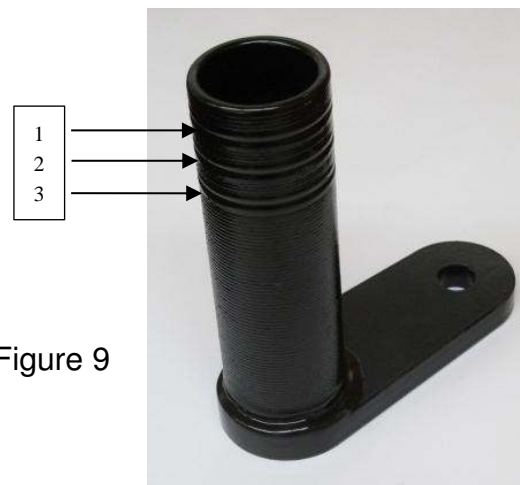

Figure 9
- ii. Trim off the pipe of the PB5019 to provide room for the spacers. There are three lines cut in to the pipe to act as a guide. See Figure 9 for a detailed view.